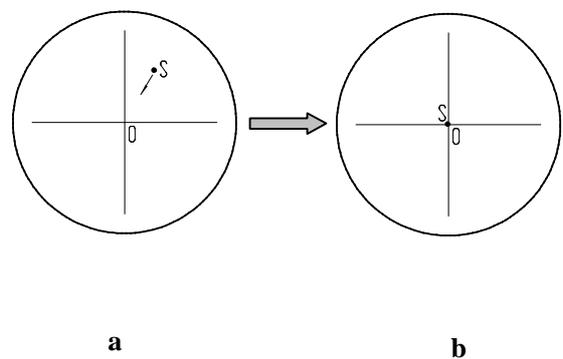

Fig.12
- (1) Loosen the fastening screws 1 of the photography output terminal, and remove the dust-proof cap 2.
- (2) Mount the photography device on the output terminal, and then tighten the fastening screws gain.
- (3) Turn the 10X objective into the light path.
- (4) Push the push-pull rod 4 in and focus to make micro-image clear.
- (5) Pull the push-pull rod 4 out to see whether the image with photography clears. If unclear, adjust the fine focusing control knob to make the image clear.
- (6) If there is strict synchronization requirement for eyepieces and photographic images (consistency between the center and direction of the image), a synchronization adjustment will be necessary as follows:
- a. Push in push-pull rod 4, observe with eyepieces. Find a feature point in the field of view (a readily identifiable target, such as *S* point in Fig. 12-a), move it to the center of the field of view. If there is a division eyepiece, move the target to the reticle intersection of the division eyepiece, as shown in Fig. 12-b.